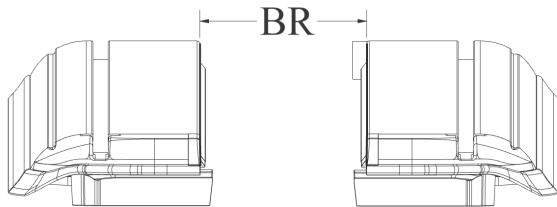

FIG. 8C
You can also check the between the rail measurement at the canister and the tailgate end of the rails. The measurements should be equal to or less than those in Figure 8C. The Clamp Extensions have been pre-installed with brackets and shims to achieve the proper Between the Rail dimension (BR) when placed on an average factory truck bed. However, not all truck beds are average dimensionally and some have optional plastic caps or over the rail spray-in liners.